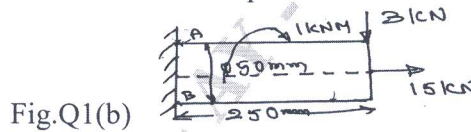

Fig.Q1(b)
b. A circular rod of diameter 50mm is subjected to loads as shown in Fig.Q1(b). Determine the nature and magnitude of stresses at the critical points. (12 Marks)